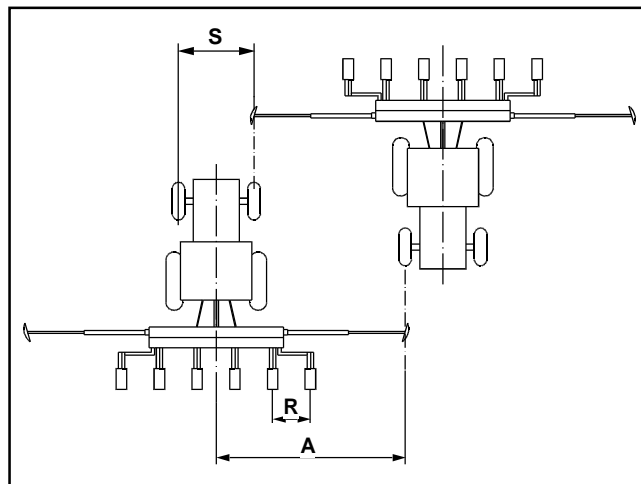

Fig. 6.11
6.2.4.1 Measured from the centre of the machine (Fig 6.11)